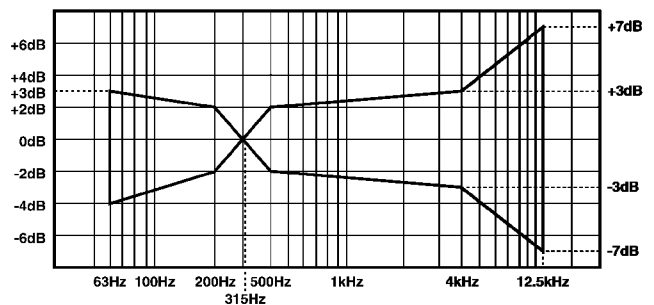

Fig. 13-7.
3. Confirm the playback frequency response is within the range shown in Fig. 13-7.